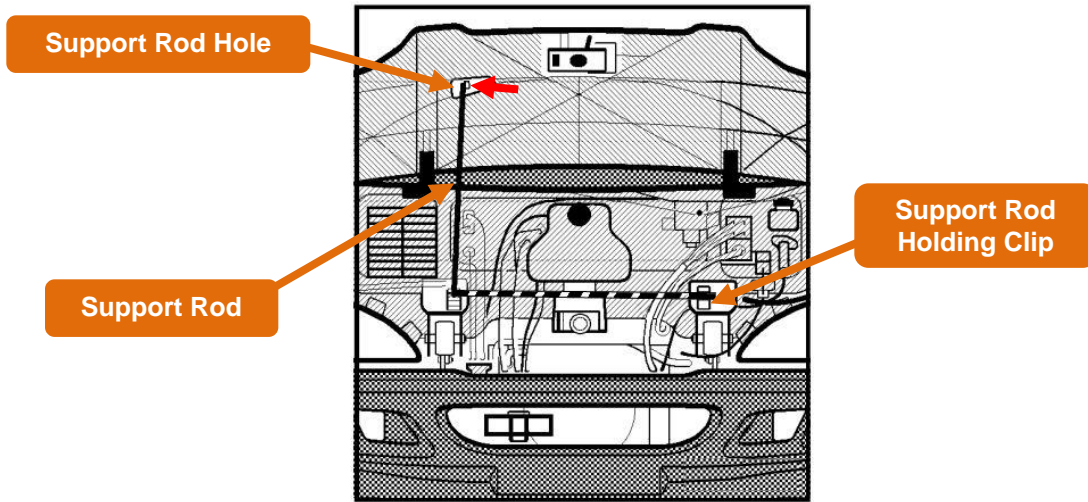

Figure 10.13
- Remove the Support Rod from the holding clip and insert the free end into the Support Rod hole in the frame of the hood. Check to make sure Rod is secure. (Figure 10.13)